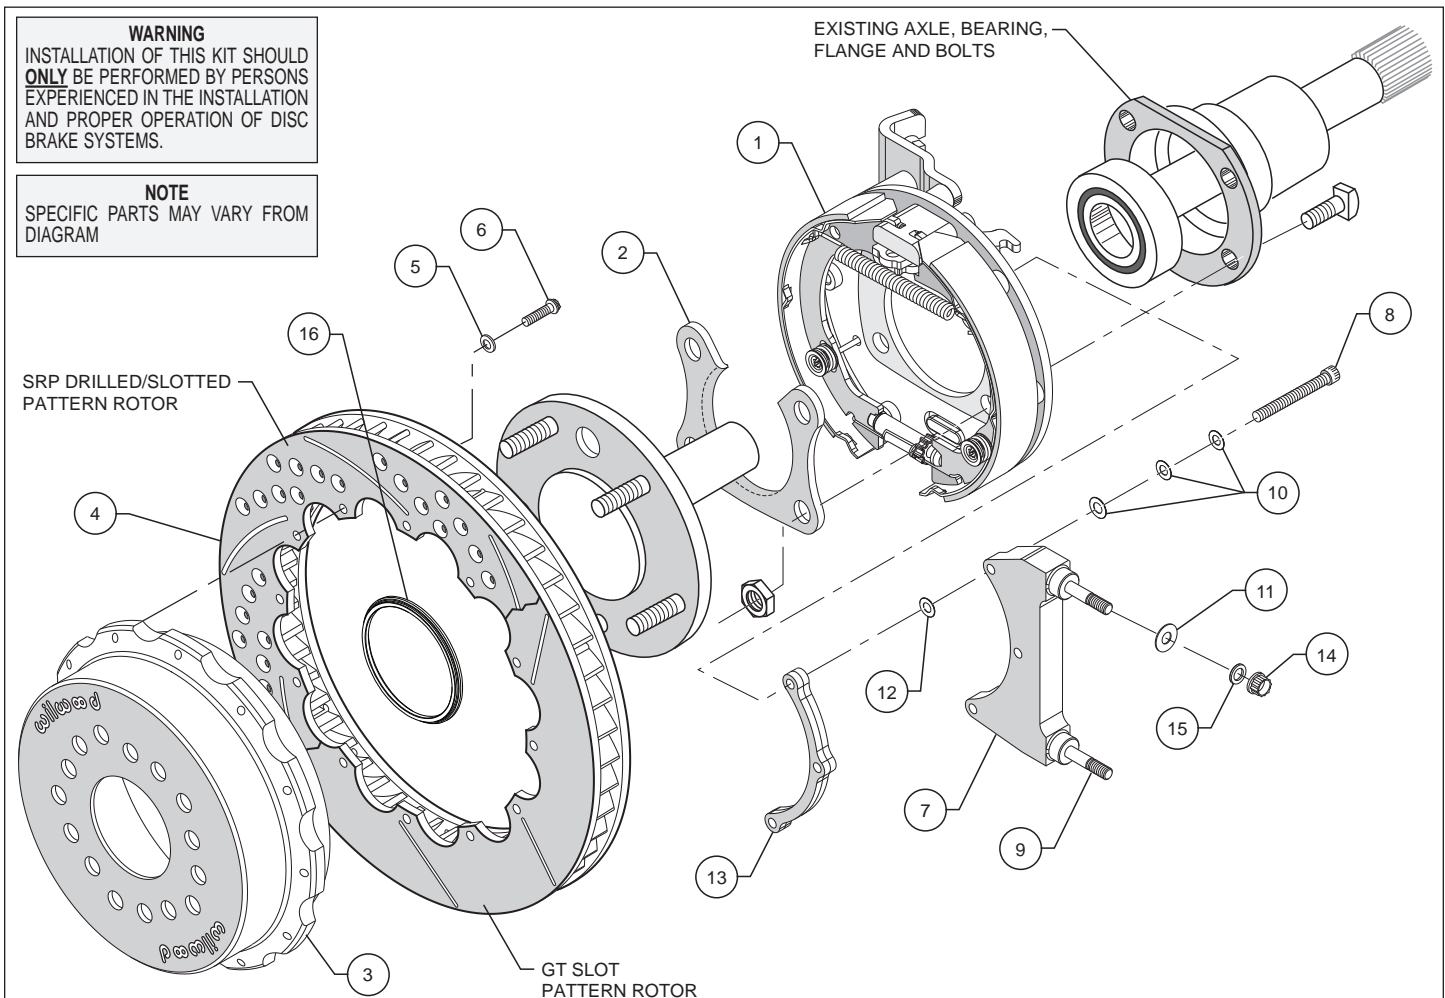

Figure 1. Typical Installation Configuration
- Orient the bracket assembly (1) as shown in Figure 1, and slide it onto the axle flange. Ensure that the bracket assembly backing plate fits flush against the housing flange. Insert the axle shaft into the axle housing.
- Install the bearing retainer (2) with the opening pointing upward and the lip facing inward (toward the bearing), as shown in Figures 1 and 4. Secure using the Original Equipment Manufacturer (OEM) bolts and nuts, Figure 1. Apply red *Loctite*® 271 to the OEM bolt threads and torque to OEM specifications.
- Slide the rotor registration adapter (16) onto the axle register on the axle flange with the smaller O.D. facing toward the rotor/hat (3). Align the correct hole pattern in the hat with the stud pattern on the axle flange. **NOTE:** Some OEM and aftermarket axles come with stud sizes larger than 0.50" diameter. Verify stud size and have a qualified machine shop drill the hats to the correct size, if necessary. Slide the hat/rotor assembly (3 and 4) over the wheel studs covering the bracket kit assembly (1) and against the axle flange face. Check to be sure the hat seats squarely against the hub. Install three lug nuts (finger tighten) to keep the rotor/hat assembly in place while continuing with the installation.
- NOTE:** Please reference the caution statement at the beginning of the assembly instructions. The caliper mounting bracket assembly (7) should be installed first with clean, dry threads on the mounting bolts (8). Install the bracket from the rear side of the bracket kit assembly (1) by sliding bolt (8) through three flat washers (10), bracket (7), shim washer (12) and finally through the spacer (13), see Figure 1. **NOTE:** End of bolt should not exceed inside face of insert. The bracket must tighten squarely against the back side of the bracket kit assembly (1). Inspect for interference from casting irregularities, machining ridges, burrs, etc. Use one thin shim (12) between the bracket (7) and spacer (13) during initial trial fitting.
- Lubricate caliper mounting studs and nuts with lightweight oil. Install one shim (11) over each pre-installed stud (9) on the radial mount bracket (7). Slide the caliper (customer supplied) in place over the studs and rotor, then install the washer (15) and lock nut (14) to hold the caliper in place. The caliper bleed screws should be pointing up. Snug the lock nuts (14) and check that the rotor (4) is centered in the caliper. Add or subtract .015" shims (12) as necessary between the caliper mounting bracket (7) and the spacer (13) to center the caliper.
- Remove the two caliper pad retaining pins from the caliper by popping out the pin retaining clips and sliding out the pins. Slide the brake pads (customer supplied) into place. They should install easily without interference. Check that the outside radius of the brake pad is flush with the outside diameter of the rotor face. Add or subtract shims (11) between the caliper and mount bracket (7) to gain the proper alignment. Reinstall the pad retainer pins and secure using the pin retaining clips.
- Adjust the parking brake shoes outward (using a drum shoe adjustment tool available at your local auto parts store) while spinning the hat (3) until a slight drag is felt against the hat/drum. Remove the lug nuts that were holding the hat/rotor in place. Install the wheel and lug nuts. Check to see that the wheel rotates freely without interference.
- Once all clearances have been checked, remove the wheel, caliper, hat/rotor from the bracket kit assembly (1). Secure the caliper mounting bracket (7) to the bracket kit assembly (1) using red *Loctite*[®] 271. Torque bolts (8) to 180 in-lb. Reinstall the hat/rotor assembly and again use lug nuts to hold it in place. Reinstall the caliper, torque the caliper nuts (14) to 47 ft-lb.
- NOTE:** Clevis and cable kits which attach to the parking brake assembly are not included in the Wilwood parking brake kit. Wilwood offers a generic style parking brake cable kit, P/N 330-9371 for this application which can be ordered separately from your local Wilwood dealer or by calling Wilwood customer service at (805) 388-1188.